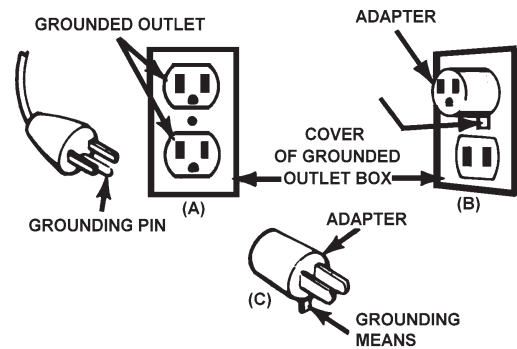

FIGURE 1: GROUNDING METHODS
This battery charger is designed for use on a nominal 120 Volt circuit and has a grounded plug that looks like the plug illustrated in FIGURE 1 (A). This plug should be used in a grounded outlet. The plug pins must fit the receptacle (outlet).
ADAPTER: A temporary adapter, as shown in FIGURE 1 (B) and (C), may be used to connect the charger plug to a two-pole receptacle (outlet) as shown FIGURE 1 (B).